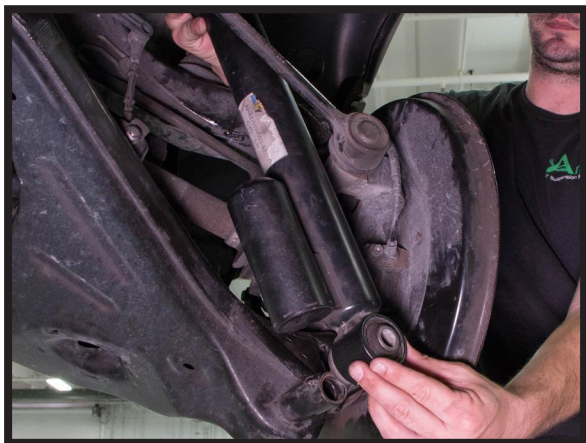

FIGURE 35
10. DISCONNECT THE SHOCK FROM THE LOWER CONTROL ARM AND REMOVE. (FIGURES 35, 36)